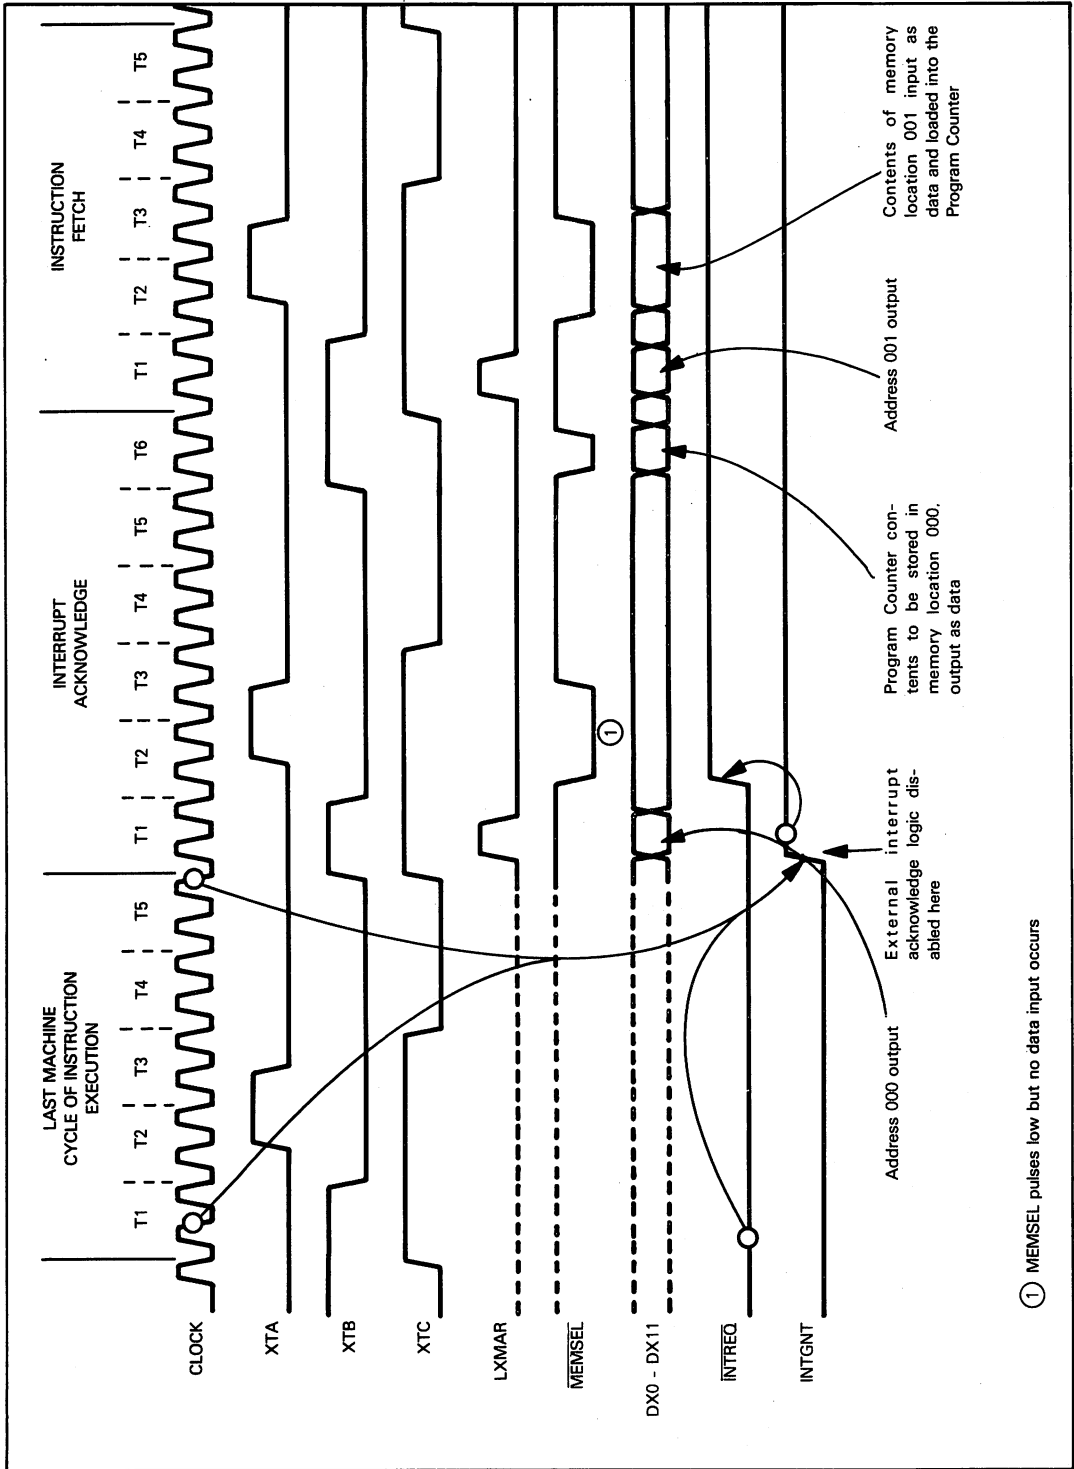

Figure 13-22a. IM6100 Interrupt Acknowledge Timing
**Timing is illustrated in Figure 13-22a.**
**You request a control panel interrupt by inputting a low signal via  $\overline{\text{CPREQ}}$ . Timing for the request acknowledge sequence is identical to the general interrupt timing given in Figure 13-22a, providing you substitute  $\overline{\text{CPREQ}}$  for  $\overline{\text{INTREQ}}$ .**